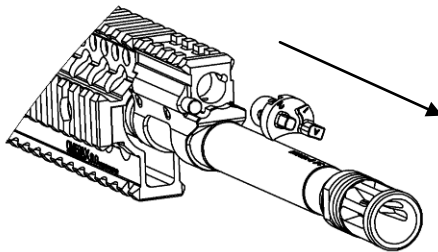
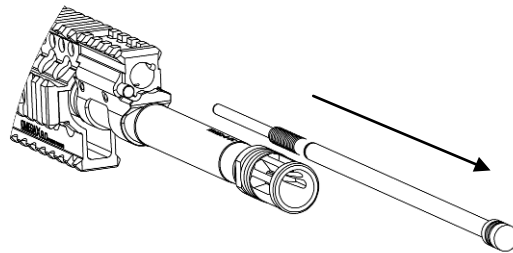

Figure 22-2
Figure 22-3
2. Remove gas plug from gas block and tilt gun muzzle down. (Figure 22-2). Gas piston will fall free through front of the gas block. (Figure 22-3).